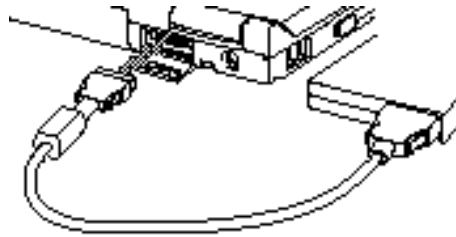

Figure 4-7 External Installation of a Floppy Disk Drive
3. Align the connector of the optional external floppy disk drive with the connector towards the rear of your notebook with the wide side of the connector down. (Figure 4-7.)
3. Squeeze the releases on the sides of the optional external floppy disk drive connector next to the body of your notebook together. (Figure 4-7.)